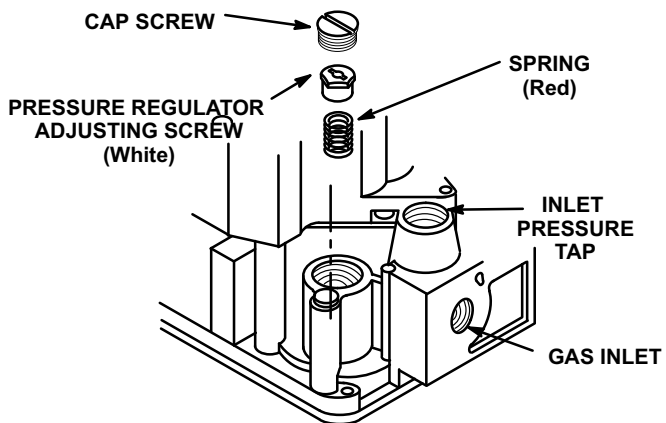
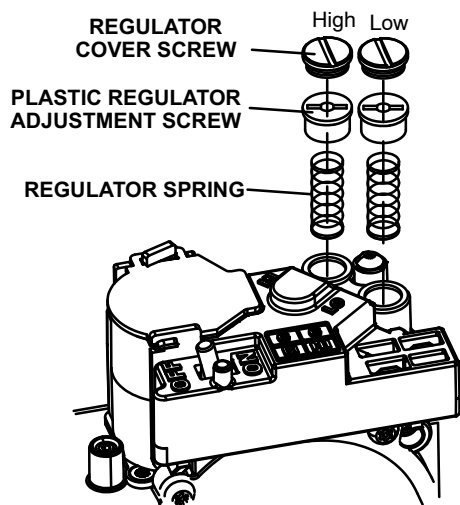
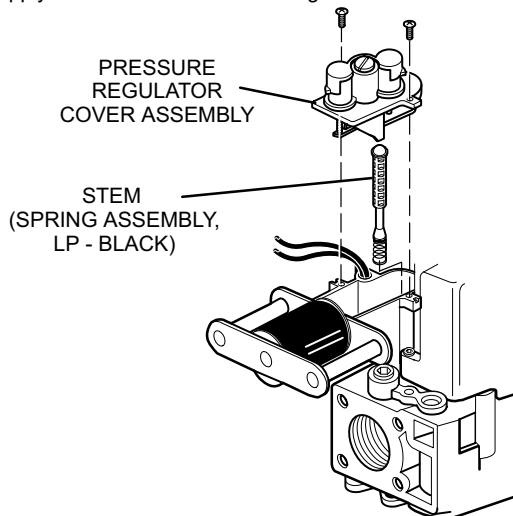

FIGURE 5
FIGURE 6
FIGURE 7
- 6- Install spring kit as shown in figure 5 for single-stage gas valves, figure 6 for two-stage and four-stage White Rodgers gas valves, and figure 7 for two-stage Honeywell gas valves. Also refer to the manufacturer's instructions provided with spring kit. When installing 14N21 kit, discard the unused spring kit.